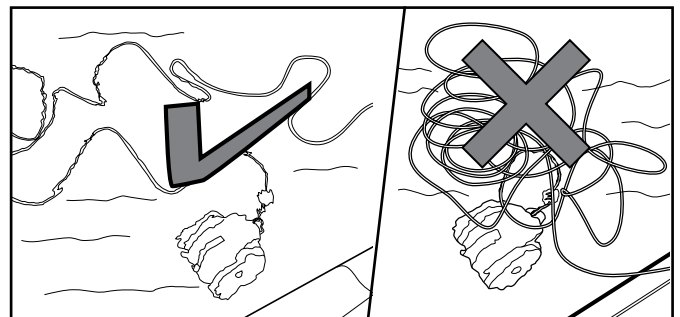

Figure 5. Spread Floating Cable Over the Pool
2. Spread the floating cable out over the pool, ensuring there are no kinks or bends in the cable. Refer to Figure 5.